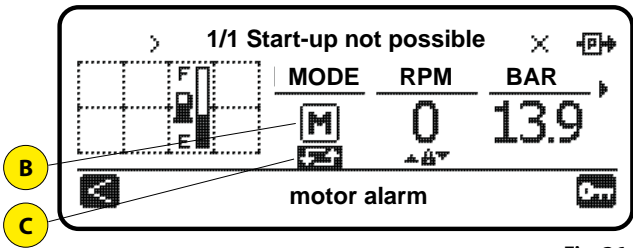

Fig. 36
Grid (B) (Fig. 36) shows the operating mode of the motor-pump unit:
- Use  to position the focus on point (C) (Fig. 36) and press  to change the operating mode.